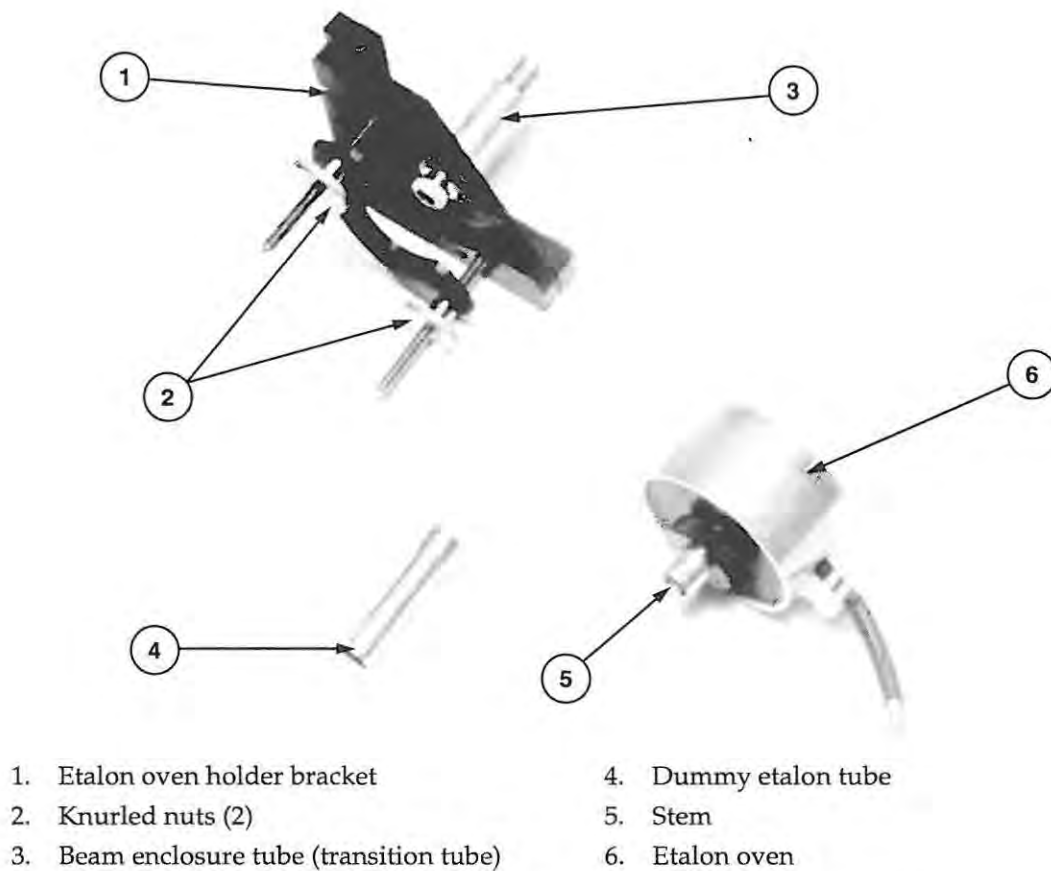

Figure 8-3. Etalon Components Disassembled
2. Carefully unpack the etalon assembly, being careful to avoid touching the beam enclosure tubes on the etalon holder (Figure 8-3). The etalon assembly contains the etalon holder bracket with two mounting screws and the etalon oven. You will also need the etalon oven place holder tube called 'dummy etalon' which is already installed in the laser.
12. Carefully unpack the etalon oven (Figure 8-3). The etalon oven contains the etalon optic.